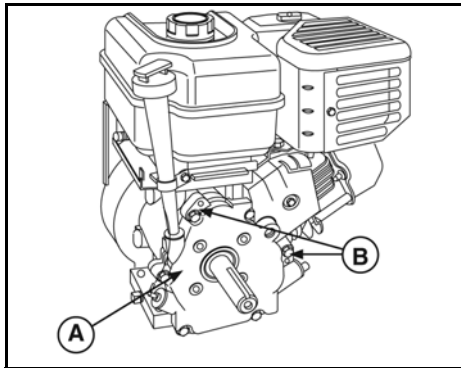

Figure 1
1. Drain oil from engine and all fuel from fuel tank. Drain oil from gear reduction unit (if equipped) and remove from engine (A, Figure 1).
**NOTE:** If crankcase cover or sump sticks, tap lightly with soft hammer on alternate sides near dowel pins (B). It is not necessary to remove dowel pins.